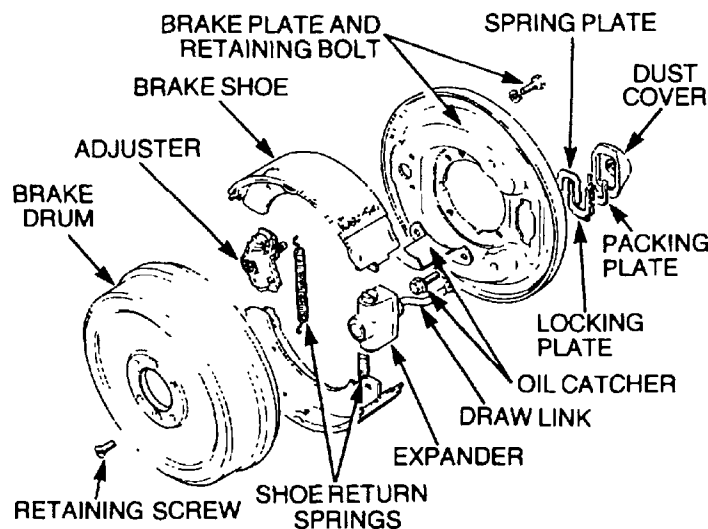

Figure 116 Parking Brake Exploded View
- d. Remove the two screws securing the transmission brake drum and remove the drum (Figure 116).